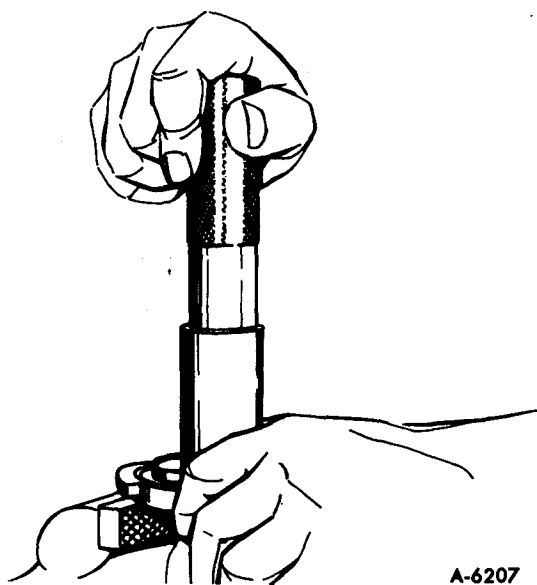

Figure 20—Seating Floating Control Valve with Installer J-23175
4. Place the inside diameter of the floating control valve retainer on the outside diameter of floating control valve Retainer Installer J-23175. Place over the push rod so that the closed side of the retainer seats on the floating control valve (figure 19). With Installer J-23175, manually press the retainer and floating control valve assembly to seat in the primary power piston tube (figure 20).